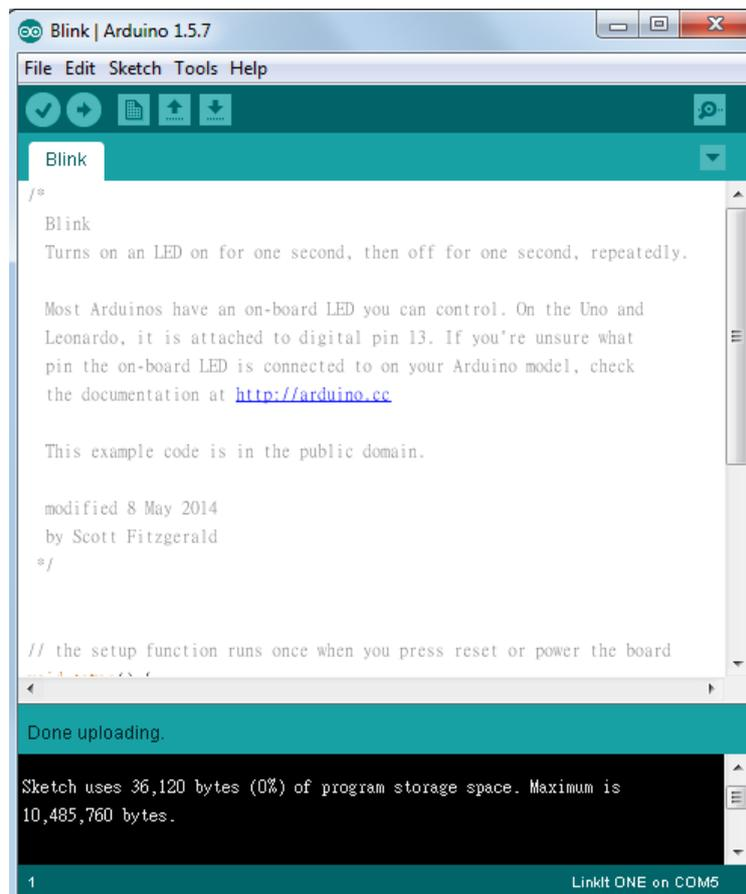

Figure 15 The upload button in toolbar of Arduino IDE
- 3) On the **File** menu, click **Upload**, or click the upload icon as shown in Figure 15.